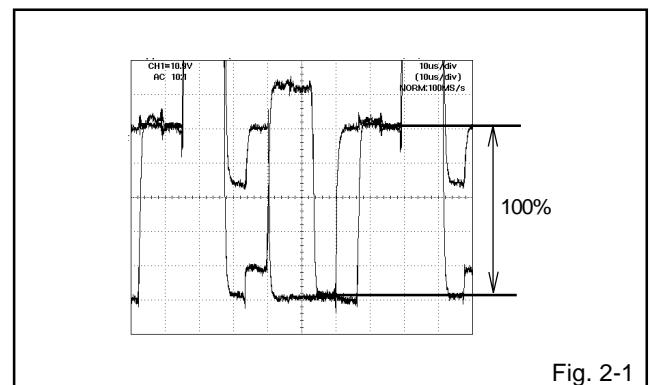

Fig. 2-1
6. Press the VOL. +/- button on the remote control until the red color level is adjusted to $100 \pm 10\%$ of the white level. (**Refer to Fig. 2-1**)